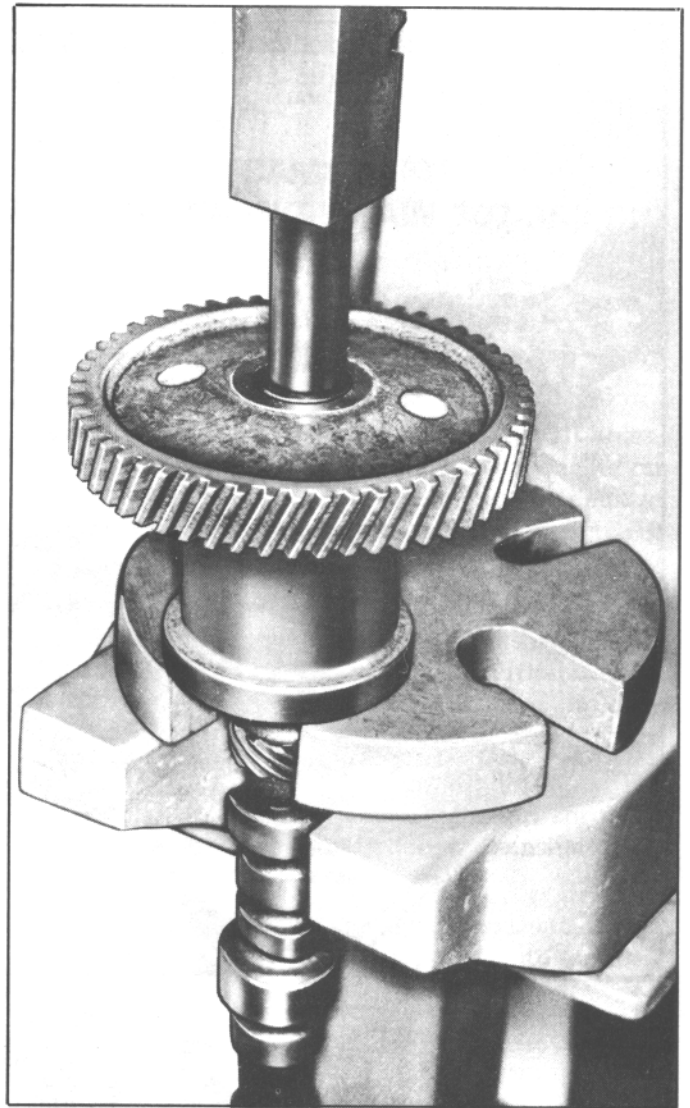

Fig. 64. Removing Camshaft Gear
1. Place the camshaft through the gear remover, place end of remover on table of a press and press shaft out of gear (Fig. 64).